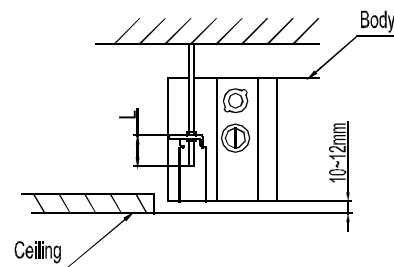

Fig.5-4
- Adjust the position to ensure the gaps between the body and the four sides of ceiling are even. The body's lower part should sink into the ceiling for 10~12 mm (Refer to Fig.5-4).
- In general, L is half of the screw length of the installation hook.(Refer to Fig.5-4)